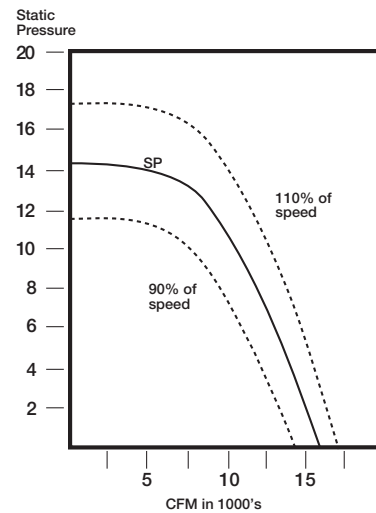

figure 2
**Figure 2** illustrates the effects of speed change. According to the fan laws, CFM varies directly with RPM. The result of reducing the speed is a similar curve in a lower position. Increasing speed results in a similar curve in a higher position.